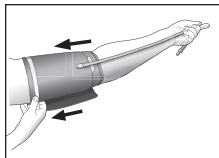

Fig. 4
3. The tube should follow the inside length of the arm, Fig 4.